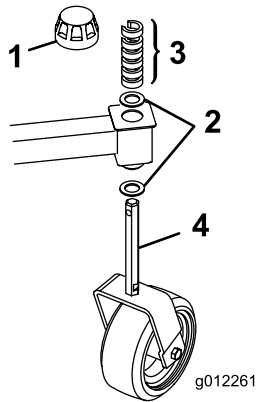

Figure 3
1. Remove the tensioning caps from the spindle shafts and slide off the spacers and thrust washers (Figure 2 & Figure 3).
in the Adjusting the Height of cut section . Slide a thrust washer onto the spindle. Push the large castor spindle through the front castor arm and the small castor spindle through the rear castor arm. Install another thrust washer and the remaining spacers onto the spindle and install the tensioning cap to secure the assembly (Figure 2 & Figure 3).